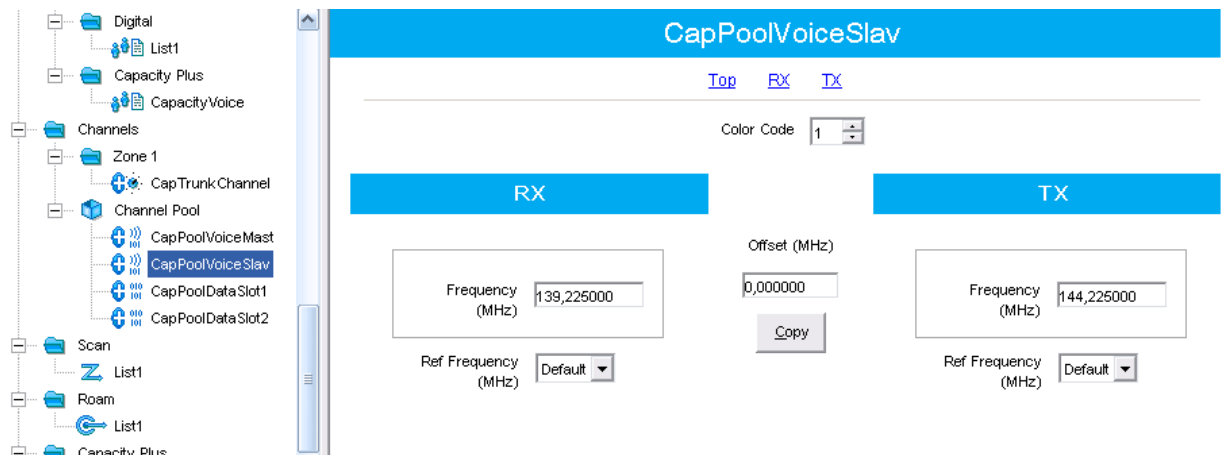

Fig. 21 - Creating channel pool for Slave repeater
2. Create channel pool for Slave (Trunk) repeater (Fig.21).